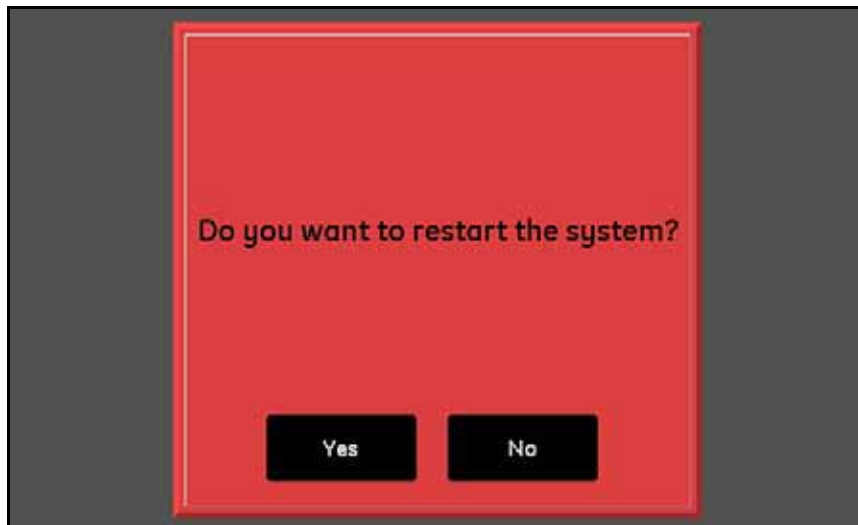

Figure 28: Restart Confirmation Screen
3. At the confirmation screen shown in *Figure 28* below, tap the Yes button to restart the unit or tap the No button to cancel the request.
To restart (i.e., reboot) the moisture.IQ system, tap the Restart button. Then, tap either Yes or No at a confirmation screen similar to the one shown in *Figure 28 on page 32*.